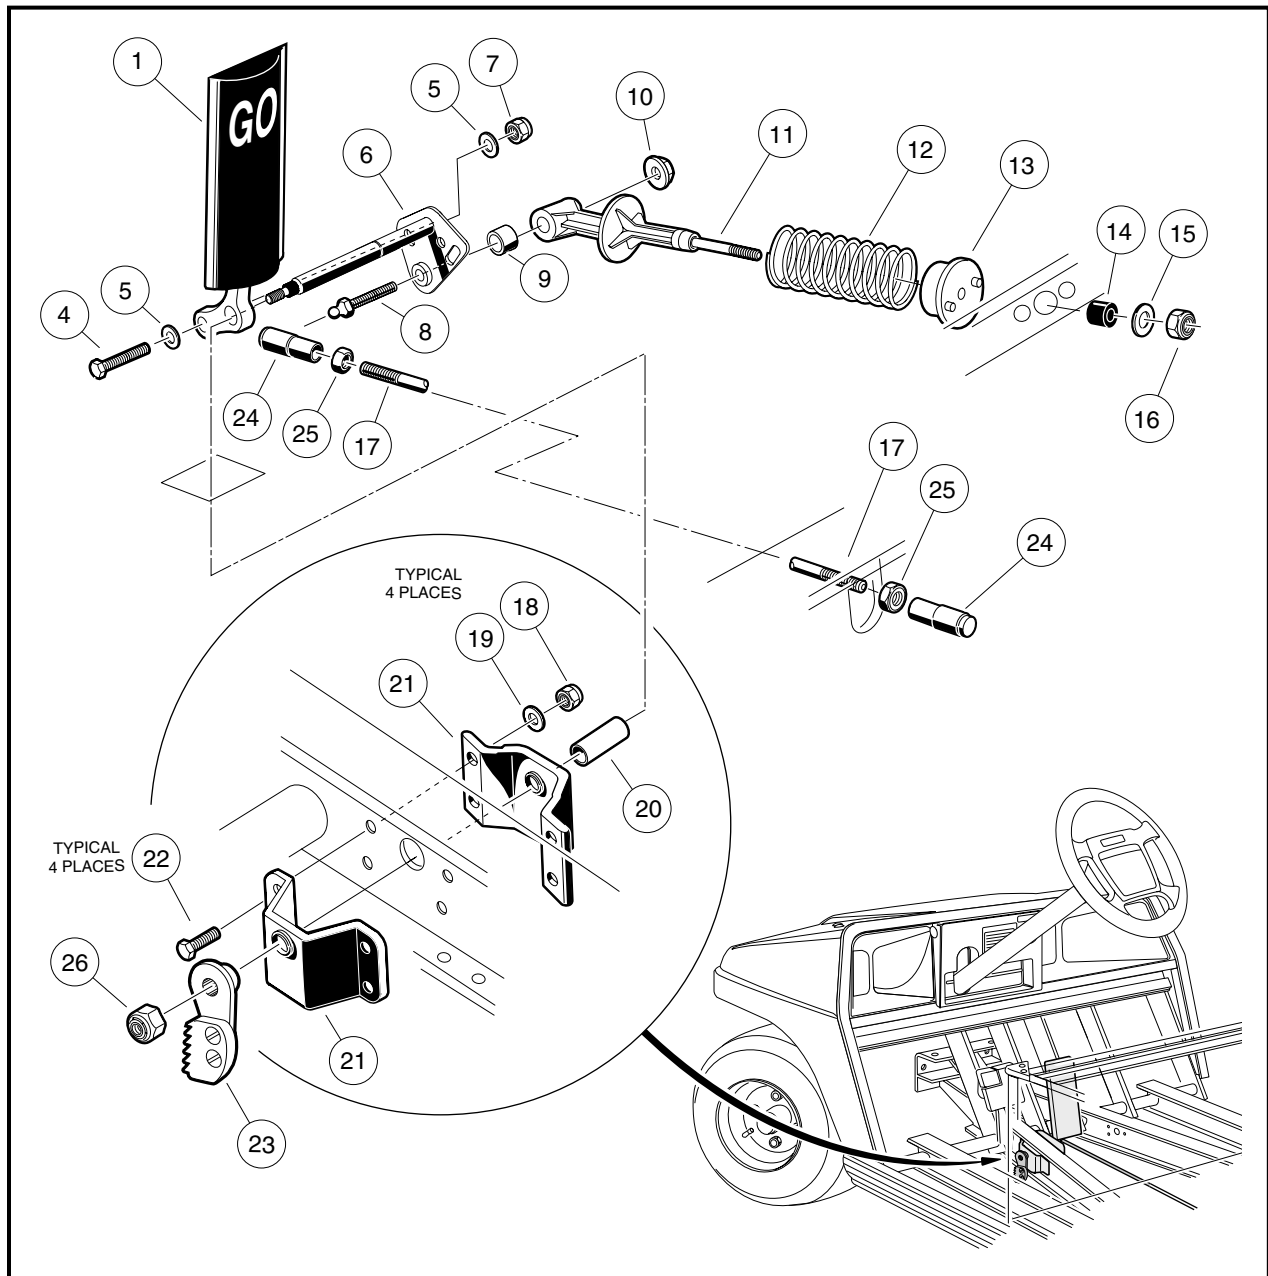

Figure 5-6 Accelerator Pedal – Gasoline Vehicles
3. Disconnect the accelerator rod assembly (17, 25, and 24) (**Figure 5-6, Page 5-7**) at the front and rear ball studs and remove it from the vehicle.
4. Using a 9/16-inch socket and 9/16-inch wrench, remove the nut (7), two washers (5), and bolt (4) securing the accelerator pedal (1) to the pivot rod (6).
5. Remove the nut (10) and ball stud (8) from the accelerator pivot rod assembly (6).
6. Slide the spring retainer (11) off of the accelerator pivot rod.
7. Inspect the pivot support bearing (9) for wear and replace if necessary.
8. Use a marker to mark the position of the park brake ratchet (23) on the accelerator pivot rod (6). See following **NOTE.**
9. Remove the lock nut (26) from the accelerator pivot rod (**Figure 5-6, Page 5-7**).
10. Depress the brake pedal slightly and slide the park brake ratchet (23) toward the end of the accelerator pivot rod. Rotate the ratchet and remove it from the pivot rod.
11. Remove the pivot rod (6) and spacer (20) from the accelerator pivot rod supports (21).
12. Inspect the accelerator pivot rod supports (21) for wear and damage and replace if necessary. If the pivot rod supports do not require replacement, loosen, but do not remove, the four bolts (22) and lock nuts (18) to make installation of the pivot rod easier.
13. Remove the accelerator pedal (1) from the vehicle.
1. If the accelerator pivot rod supports were replaced, position the supports (21) on the vehicle frame and install the four bolts (22), flat washers (19), and lock nuts (18). Finger-tighten nuts at this time **(Figure 5-6, Page 5-7)**.
2. Insert the lower end of the accelerator pedal (1) through the floorboard and install the accelerator pivot rod (6) through the uppermost hole in the pedal.
3. Install the plastic spacer (20) on the pivot rod (6).
5. Tighten the four bolts (22) attaching the pivot rod supports to the frame to 75 in-lb (8.5 N·m).
6. Install the bolt (4), two washers (5), and a new lock nut (7) through the lower hole in the pedal and through the pivot rod. Finger-tighten nut at this time.
7. Install the ball stud (8) through the pivot rod. Install the spring retainer (11) onto the ball stud. Secure these parts with the nut (10) **(Figure 5-6, Page 5-7)**. Tighten the nut to 50 in-lb (5.7 N·m).
11. Install the nylon lock nut (26) on the pivot rod and tighten the nut to 18 ft-lb (24 N·m) **(Figure 5-6, Page 5-7)**.
12. Install the accelerator rod assembly (17, 25, and 24) **(Figure 5-6, Page 5-7)**.